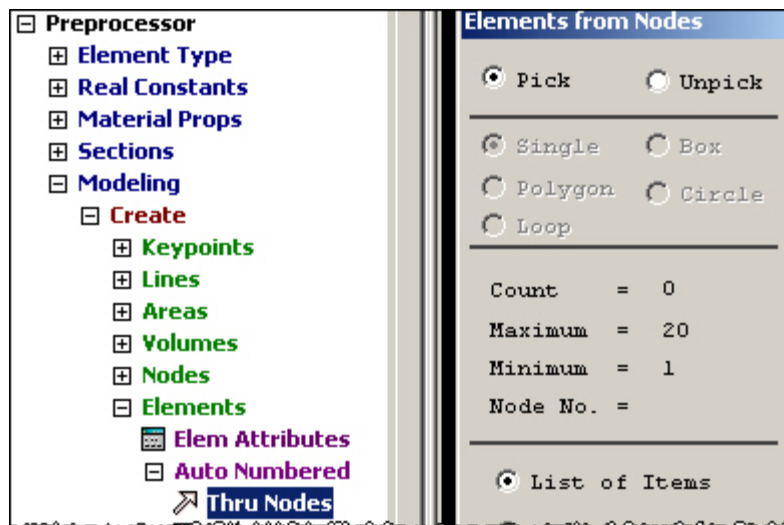

Figure 13 Prepare to graphically pick the element connectivity
3. **Main Menu**→**Preprocessor**→**Modeling**→**Create**→**Elements**→**Auto numbered**→**Thru Nodes**, as in Figure 13.